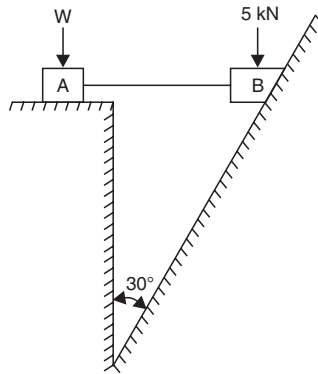

Fig. 6.20
**Example 6.8.** Two blocks which are connected by a horizontal link  $AB$  are supported on two rough planes as shown in Fig. 6.20. The co-efficient of friction of block A is 0.4. The angle of friction for the block B on the inclined plane is  $\phi = 20^\circ$ . Find the smallest weight  $W$  of the block A for which equilibrium can exist.
**Sol.** Fig. 6.20 shows the two blocks connected by the link  $AB$ .